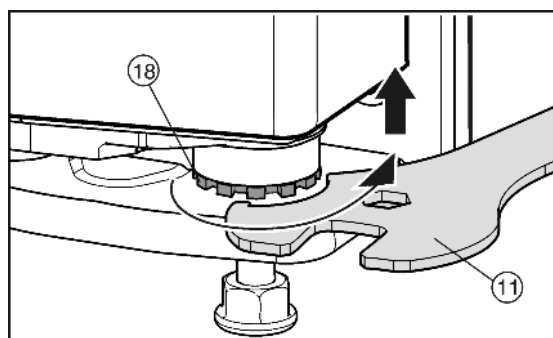

Fig. 13
- ▶ To lift the door, turn the bearing pin Fig. 13 (18) clockwise using the open-ended spanner Fig. 13 (11) included in the supply package. In the delivery condition, the bearing pin is completely screwed in.